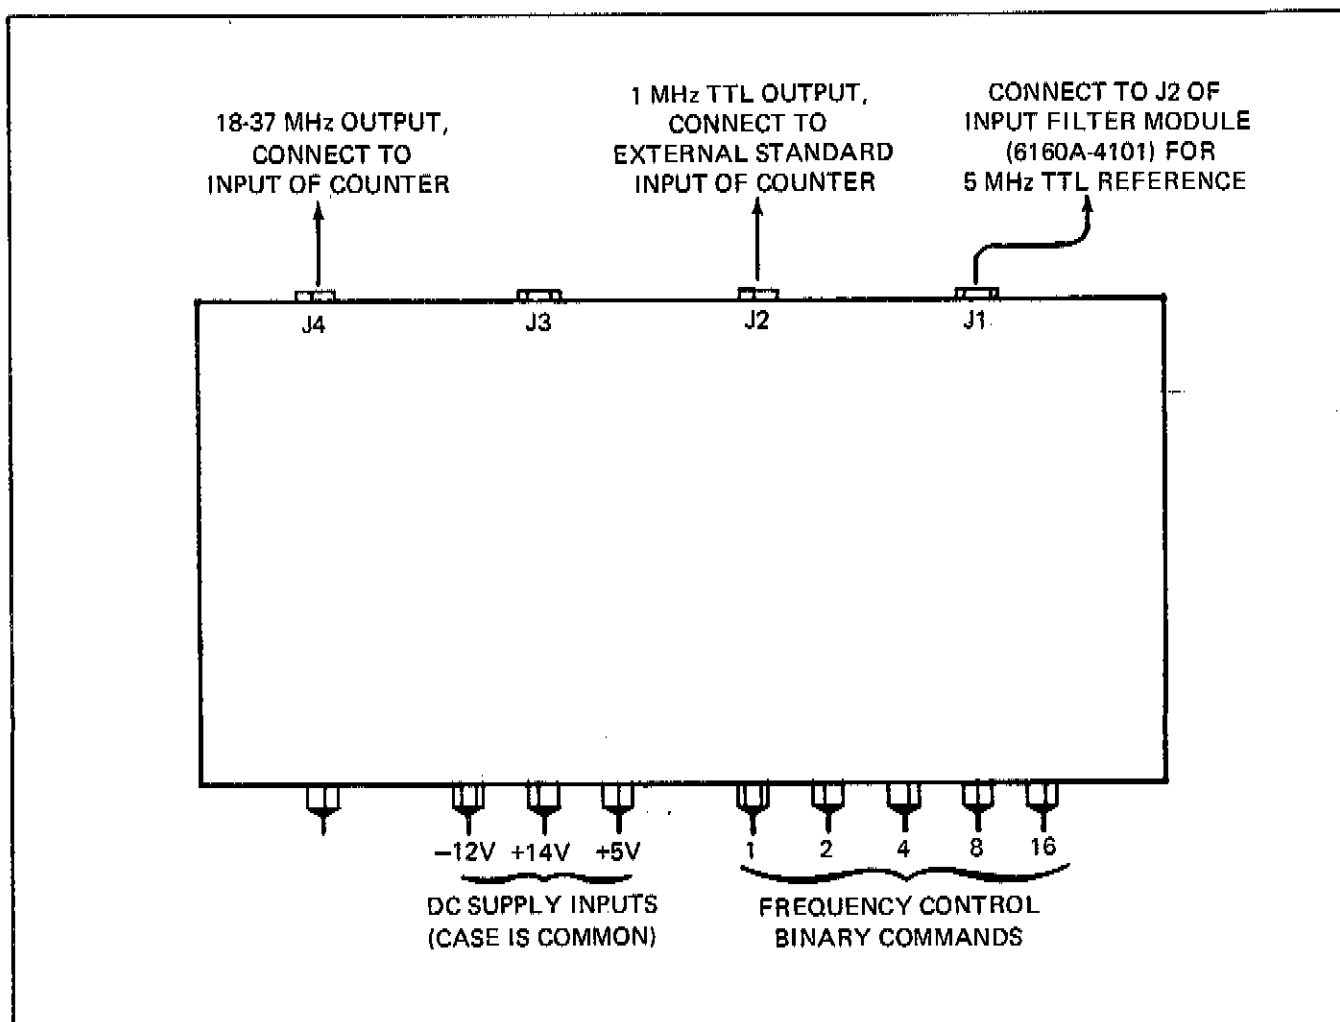

Figure 4-7. 1 MHz STEP LOOP EQUIPMENT CONNECTIONS.
- Connect dc supply voltage, 5 MHz TTL, and frequency counter (set for external standard mode) as shown in Figure 4-7.
- c. Program STP LP module for 18 MHz output at J4 by grounding appropriate feedthrough terminals (Figure 4-7) in accordance with Table 4-3.